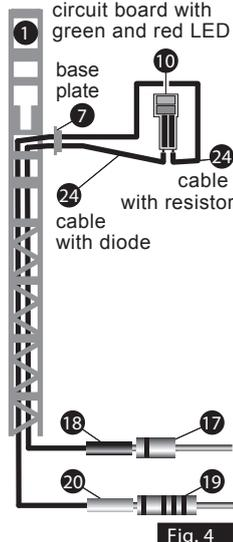

Fig. 4
5. Insert the unworked ends of both cables into the central big opening of the base-plate (1) and then pull them from the bottom up through the mast (2). Lead-through both cables as shown in Fig. 4.
7. The LED's are mounted on a small circuit board. Due to Fig. 4 the cables have to be soldered on using as less solder as possible. Pay attention to the polarity and solder on only for a short time!